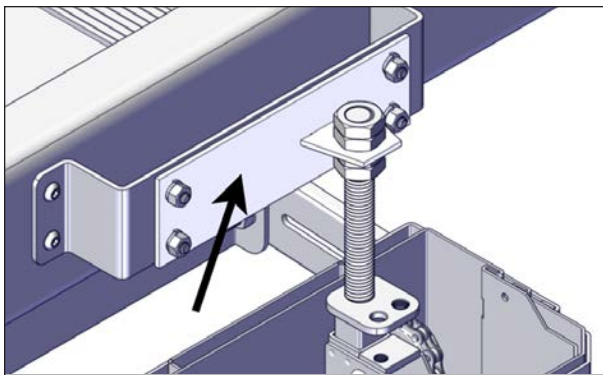

FIGURE 108: JACK ADAPTER SCREW RE-INSTALLATION
- Gently slide down the sleeve assembly, see Figure 108.
- Reinstall the jack adapters, but not the sleeves. Reinstall the 1/4-20 x 3/4" carriage bolts (4), see Figure 108.